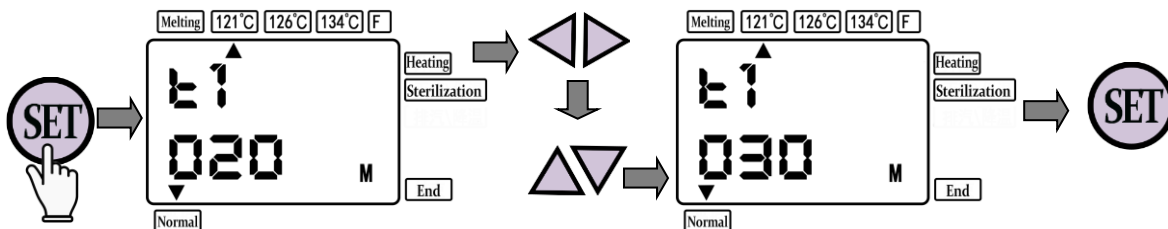

Fig. 11
② Set the sterilization time: Press the "Setting" key to the sterilization time setting interface (**Fig.11**). You can press the left and right keys to position the cursor, and then press the "Add" key to set. The value is only can be added but not reduced. After setting, please press the "Setting" key to save the modification.